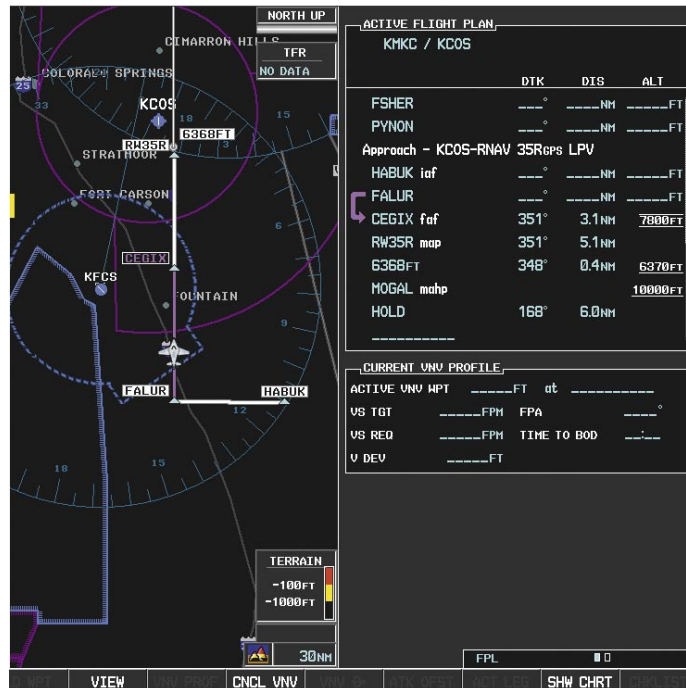

Figure 5-128 Descending to the FAF
- 23) After crossing FALUR the next waypoint is the FAF. The flight phase changes to LPV on the HSI indicating the current phase of flight is in Approach Mode and the approach type is LPV. CDI scaling changes accordingly and is used much like a localizer when flying an ILS approach. The RVSI is no longer displayed and the VDI changes to the Glidepath Indicator (as shown in Figure 5-128) when the final approach course becomes active.